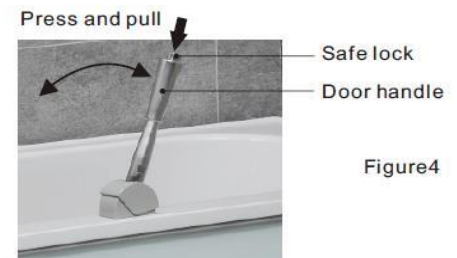

Figure 4
- If your tub has the locking system in figure 4, please follow the steps to close and open it.